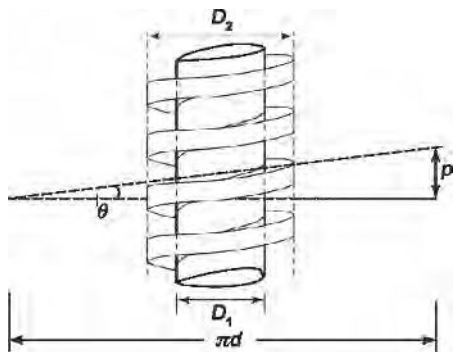

Figure 17.15
Consider the thread of the square-threaded screw jack shown in Figure 17.15.
From Figure 17.15, the motion of the screw in lifting the weight can be regarded as pulling the weight by a horizontal force P , up an incline θ , where
$$\tan \theta = \frac{p}{\pi d} \quad \text{as shown in Figure 17.15,}$$
However, from Figure 17.15,
From Figure 17.15, the **actual work done** $= P \times \pi d$
1. The coefficient of friction on the sliding surface of a screw jack whose thread is similar to Figure 17.15, is 0.24. If the pitch equals 12 mm, and $D_1 = 42$ mm and $D_2 = 56$ mm, calculate the efficiency of the screw jack. [24.06%]